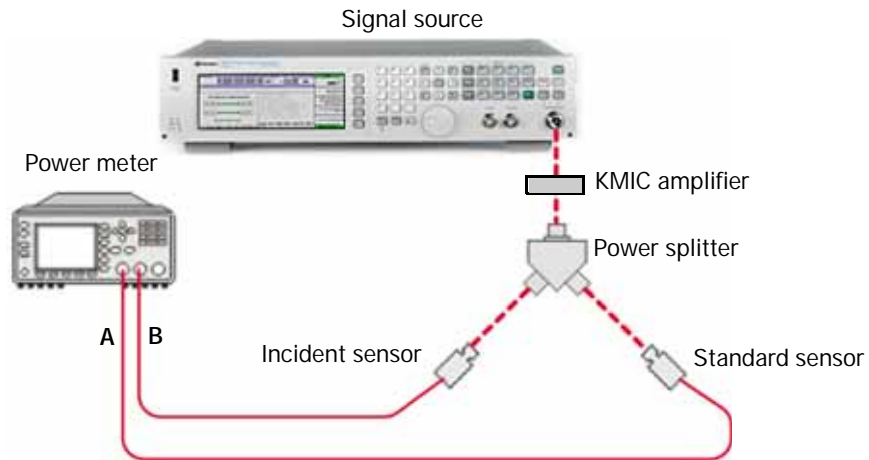

Figure 2-3 Sensor accuracy performance test setup for the N1922A (26.5 GHz to 40 GHz)
- 3 The test equipment setup is as shown in Figure 2-3.